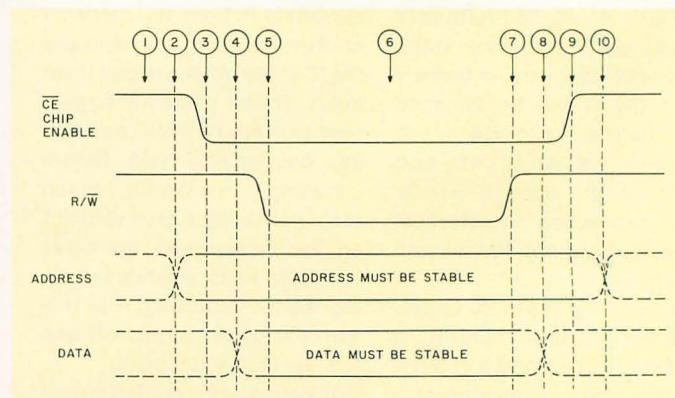
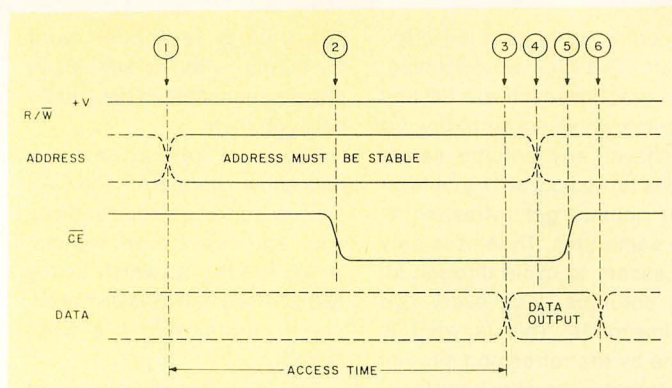

Fig. 8. Switching time waveforms for a 2102 write cycle.
Fig. 9. Switching time waveforms for a 2102 read cycle.
Theory: The sequence of steps required to use the RAM is shown in the manufacturer's data in the form of switching time waveforms as shown in Fig. 8 for a write and Fig. 9 for a read.
To store a bit in a certain address, follow this procedure; the number of each of the following steps is shown circled in Fig. 8:
2. Place an appropriate address on the ten address lines. As shown in Fig. 8, to the left of the 2 dotted line, we have shown the address line dotted as well. This means that it doesn't matter what is on these lines at that time. But from time 2, all the way to time 10, the address lines must all be stable at either 0 or 1. This is why there are two curves drawn for the address lines, one high and the
A manufacturer's specification sheet will give various minimum times for the sequence shown in Fig. 8. For instance, the sheet may say that at least 200 ns must pass from the time that the address is applied to the time the read/write line goes low, or that the data must remain stable for at least 100 ns after the read/write line goes back high. In your experiment you do not have to worry about these minimum times since you will be working in seconds rather than billionths of seconds, but if you were designing a computer system you would have to read the spec sheets very carefully.
Fig. 9 shows the switching times for a read cycle. To read, we would have to follow this sequence of steps:
The total time for the entire cycle is called the read cycle time, but another time is often quoted and that is the read access time shown in Fig. 9. This is the time from when the address is first applied to the time data first starts to come out. Typical access times for small home computers range from 600 ns down to as low as 250 ns. Much faster RAM memories are available, but not yet used to any great extent in small computers since they are faster than the microprocessors used with them. Very fast memory ICs would be used in large computers that use TTL or ECL ICs in the processor.